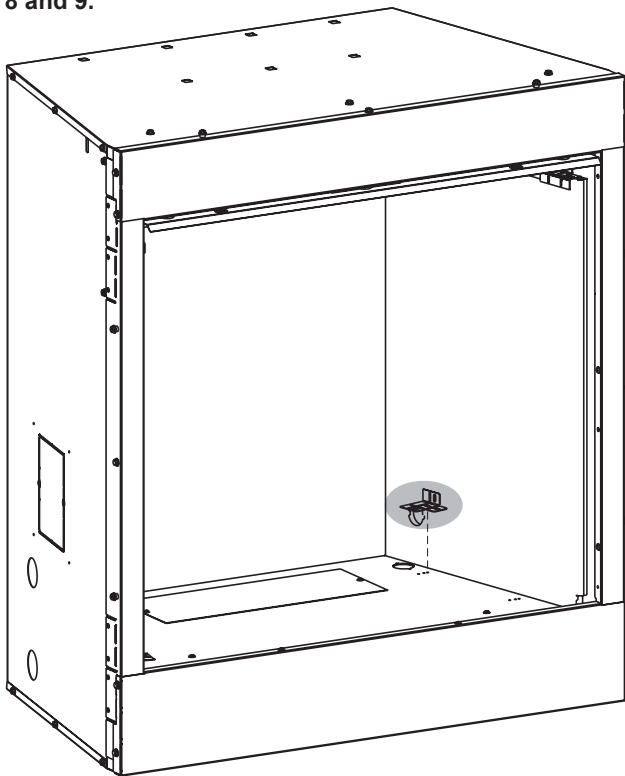

Figure 8
11. Secure the lower liner retainer brackets to the bottom of the firebox with the provided screws (one per bracket). **See Figures 8 and 9**.